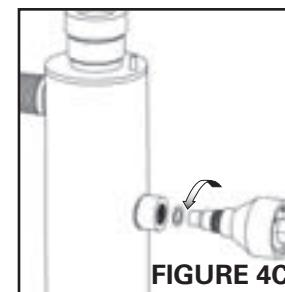

FIGURE 4C
1. Before removing the sensor assembly, follow the steps as outlined in the "Quartz Sleeve Replacement And/Or Cleaning" section. The quartz sleeve should be cleaned at the same time as the UV sensor. Disconnect the UV sensor from the Silver "Plus" (BA-ICE-SM) controller by disconnecting the sensor cable, turning the collar counter-clockwise (Figure 4B). To remove the sensor, grasp the body of the sensor and rotate counter-clockwise (Figure 4C) until the sensor is free of the threaded sensor port.